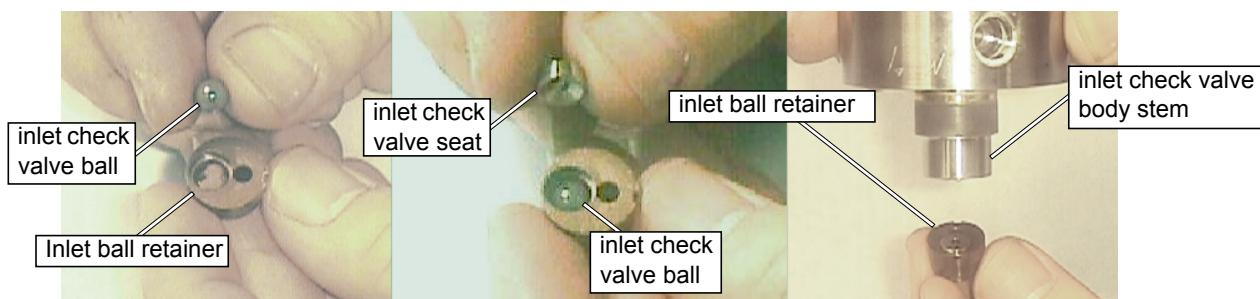

Figure 6-27
11. Next, insert the **inlet check valve ball** followed by the **seat** into the **inlet ball retainer** (Figure 6-27). Be sure the flat side of the seat faces away from the ball.
12. Hold the **check valve body** so its stem is facing down to enable insertion of the assembled **inlet ball retainer** (Figure 6-27).